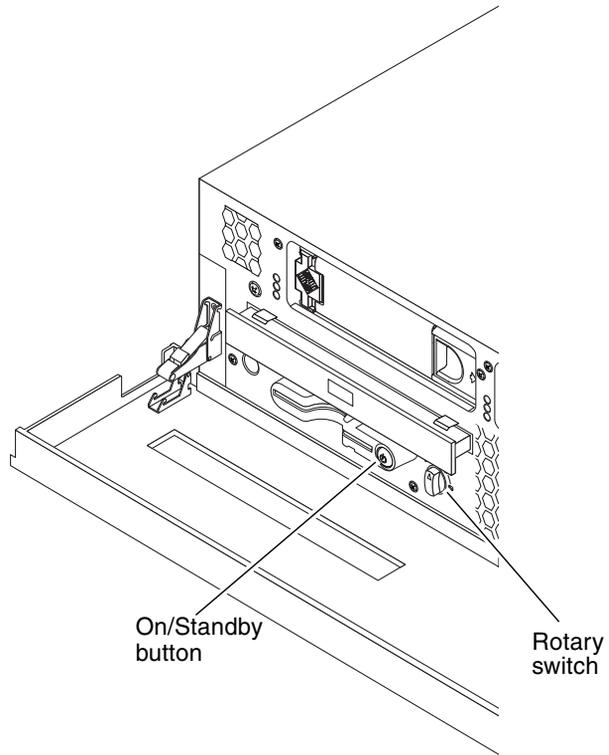
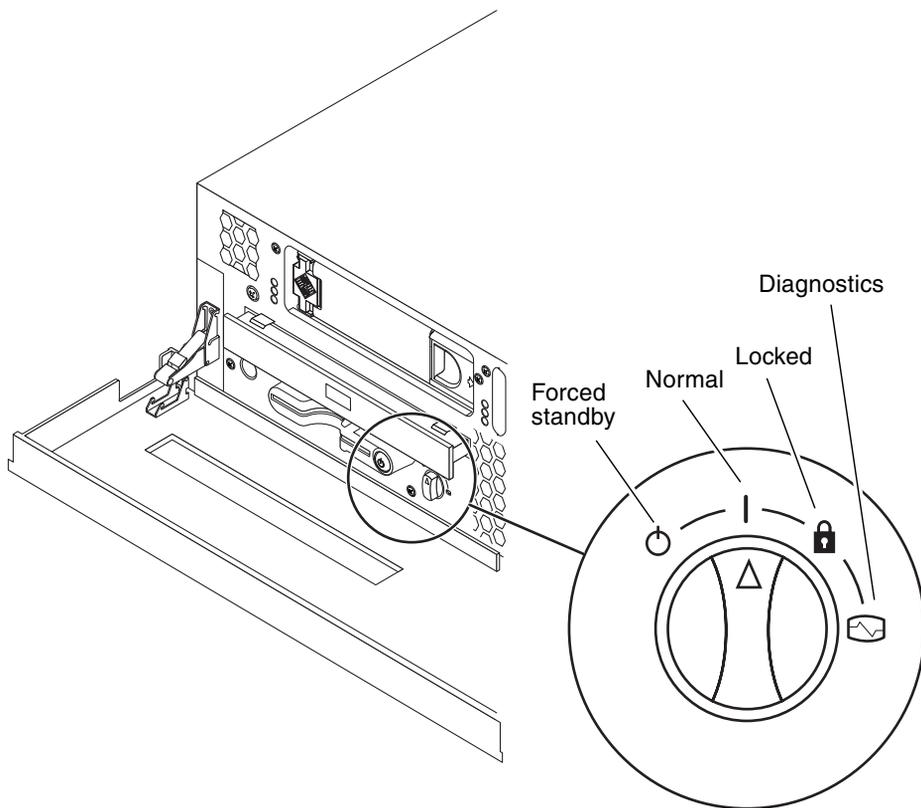

FIGURE 2-2 On/Standby Button and Rotary Switch
FIGURE 2-3 Rotary Switch Positions
The On/Standby button does not power off the server. It toggles the server between on and standby (FIGURE 2-2). The results of these actions are summarized in TABLE 2-1.
Open the front bezel for access to the rotary switch (FIGURE 2-2). An explanation of the rotary positions and server behaviors is provided in TABLE 2-2. The switch positions are shown in FIGURE 2-3. TABLE 2-3 provides the system control rotary switch functions and positions.
5. **Set the rotary switch to the Normal or Diagnostics position (TABLE 2-2 and FIGURE 2-3).**
7. Turn the rotary switch to the Locked position (FIGURE 2-3).
4. Ensure that the rotary switch is in the Normal or Diagnostics position (FIGURE 2-3).
5. **Press and release the On/Standby button on the bezel (FIGURE 2-2).**